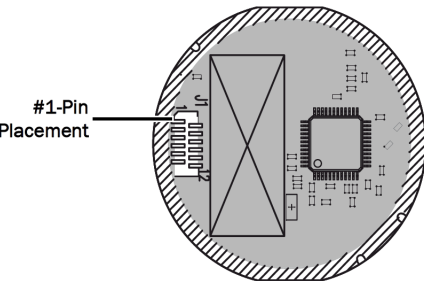

Figure 4. TM035035 - Pin #1 Placement Example
**Note:** The number one pin is on the left side of the connector (see Figure 4 on page 9). Connector pins engage FPC on pin1 side. Install FPC with visible conductors on pin 1 side.